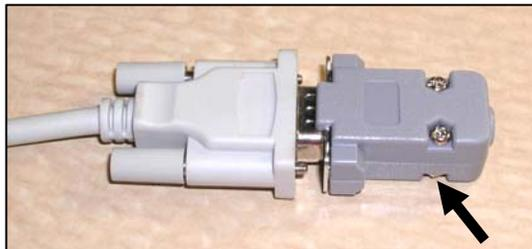

Figure A-3: Serial Cable Loopback connector
7. Connect the Serial Cable Loopback connector to the serial cable as shown in Figure A-3. If the response shown in the Loopback Test window changes to “Response Received” then communication to this point in the equipment is operating correctly.